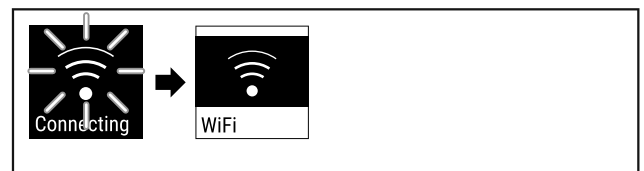

Fig. 85
- ▶ Connection is established (see Fig. 85).